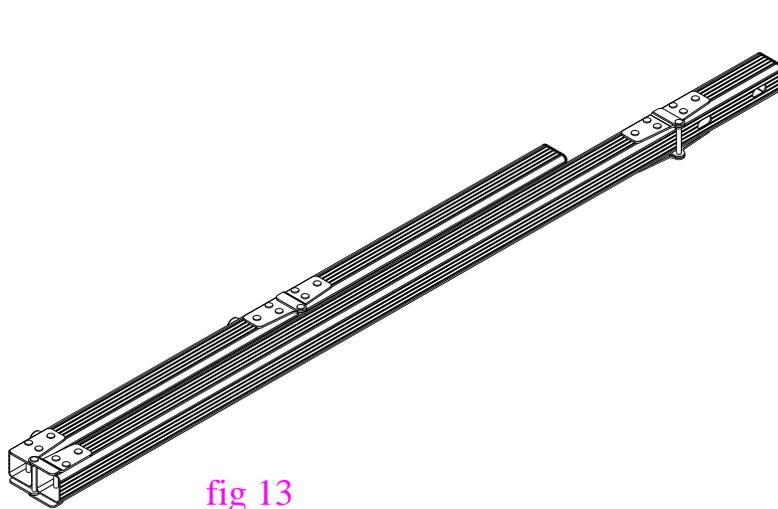

fig 13
1. Take the SAT-Leg out of the case and remove its wrappings as shown in (fig 13).